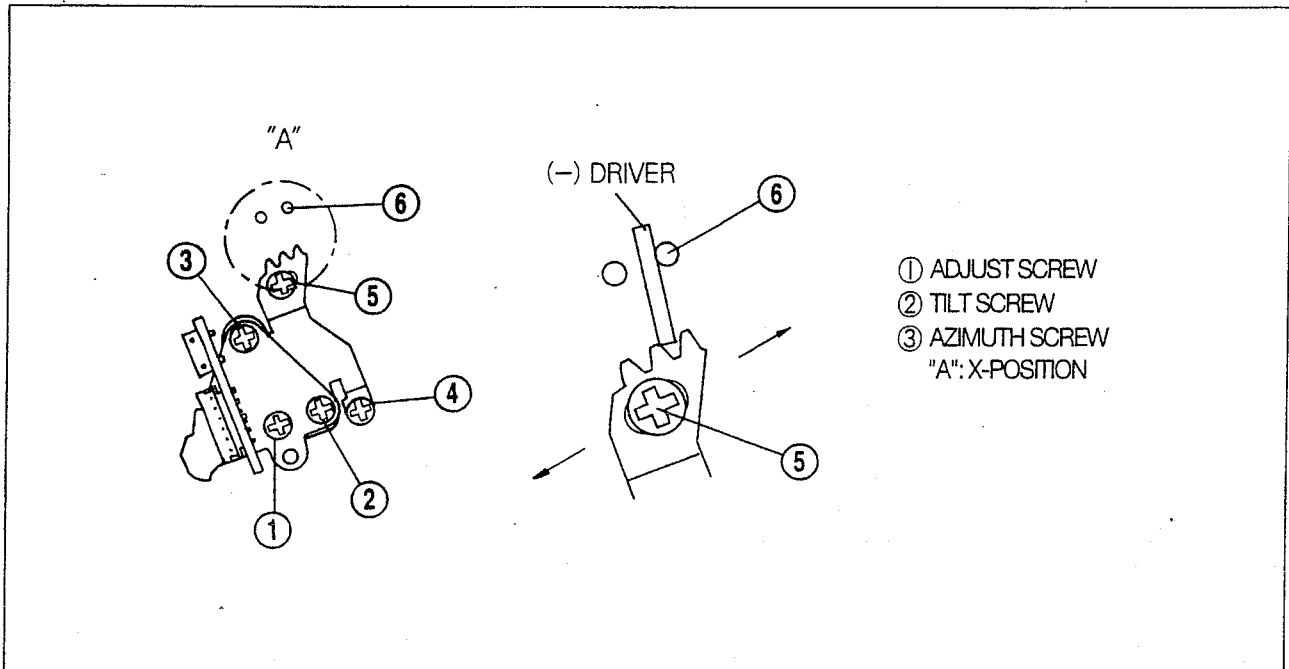
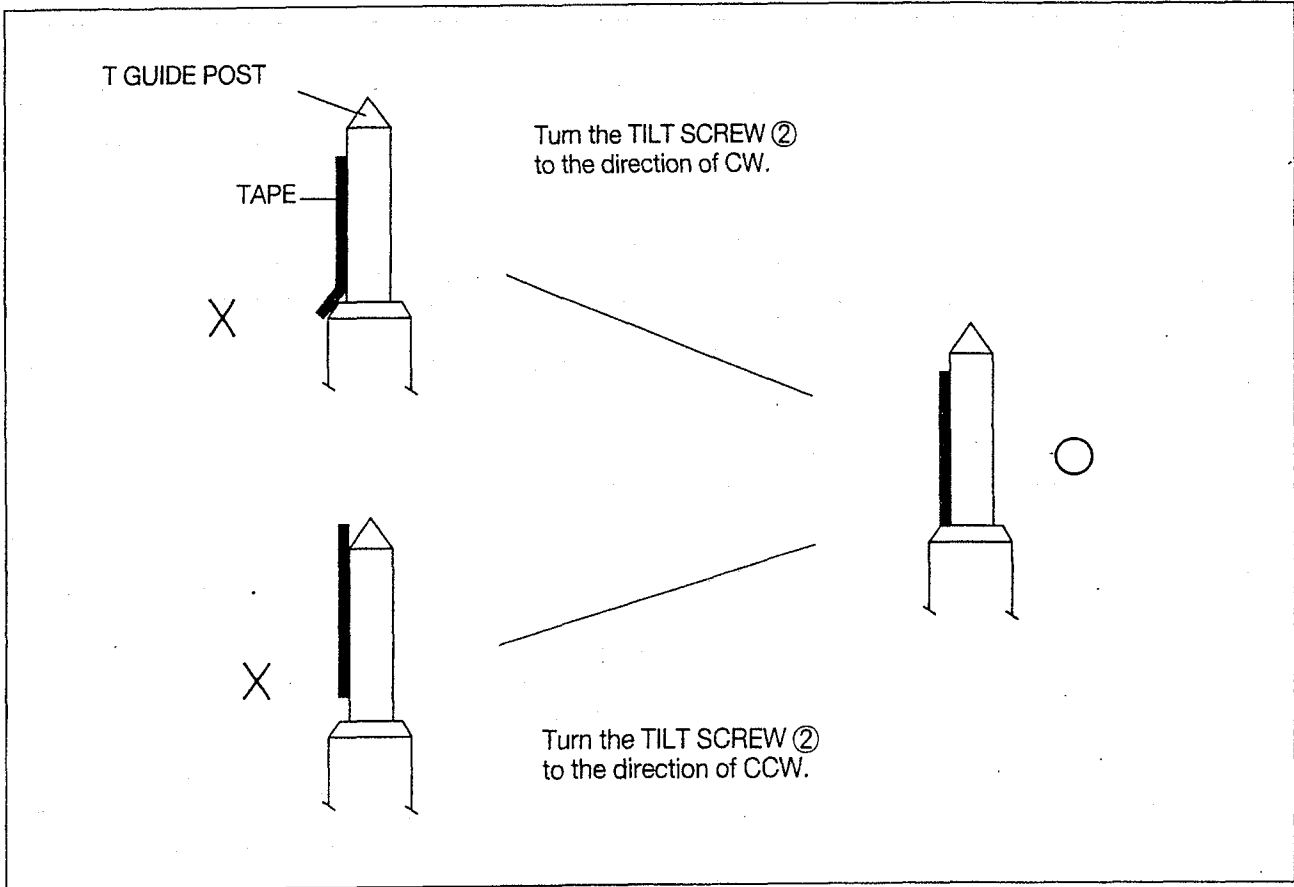
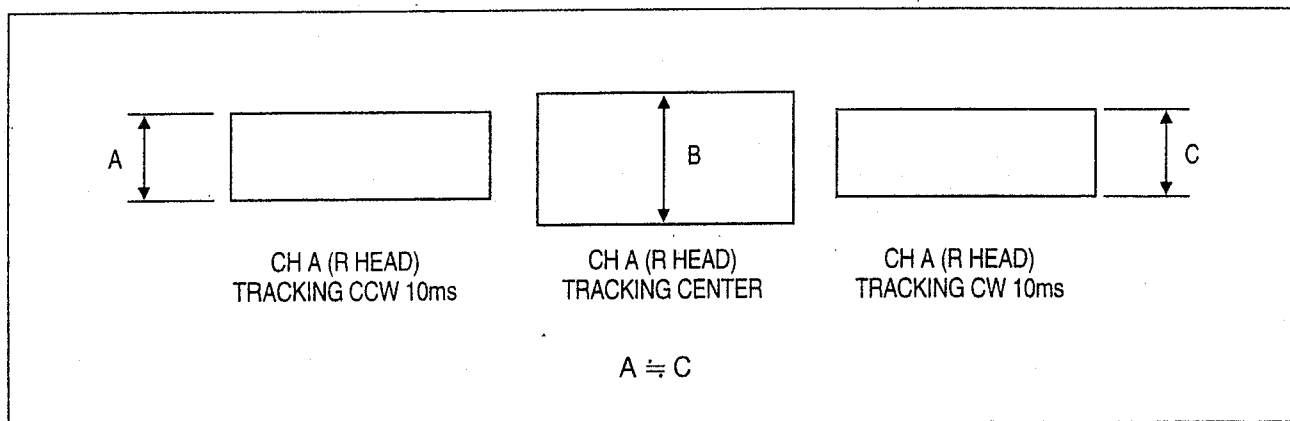

Fig. 5-2
Fig. 5-3
Fig. 5-12
B. If the running state is extraordinary, adjust the TILT SCREW (refer to Fig. 5-2 (2)) to obtain the running of tape normal as shown in Fig. 5-3.
B. Release the ④, ⑤ screw of the AC HEAD in Fig.5-2 about 90-120 degrees.
C. Turn the AC HEAD TOT AS to obtain maximum ENVELOPE waveform by using the (-) driver as shown in Fig. 5-2.
B. Adjust the AUDIO output to be maximum by turning of AC HEAD AZIMUTH SCREW (refer to Fig. 5-2 ③).
C. Turn the AC HEAD TOT AS by using (-) driver in the same method as Fig. 5-2 in order that the ENVELOPE waveform is as shown in Fig. 5-12 when the TRACKING VR is turned to CW or CCW.